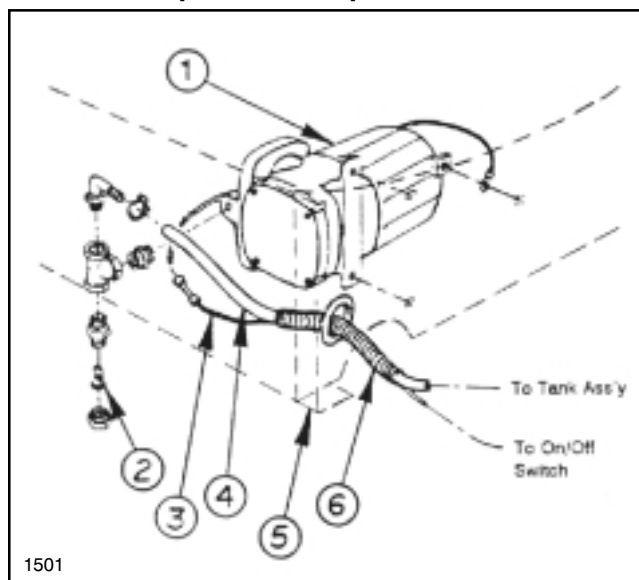

FIG. 3
16. Mount the foam marker tank and bracket assembly to the mounting bracket with (2) 1/4" flatwashers and (2) 1/4" lockwashers.
17. Assemble the compressor complete as shown in FIG. 3. Connect the 48" hose to the barb fitting on the compressor. Secure with a hose clamp.
18. Install the (2) grommets into the front and rear hose cutouts on tank/skid assembly.
19. Mount the compressor underneath the right front corner of the tank/skid assembly with (3) #8 self-tapping screws (FIG. 3). Ground the ring terminal on the black compressor wire to one of the mounting screws.
20. Locate the orange auxiliary wire and insert the stripped end of the red compressor wire into the butt splice connector on the auxiliary wire. Crimp the connector (FIG. 3).
23. Place the 48" x 3/4" black plastic loom over the wiring harness and the connector hose between foam tank and compressor (FIG. 3).